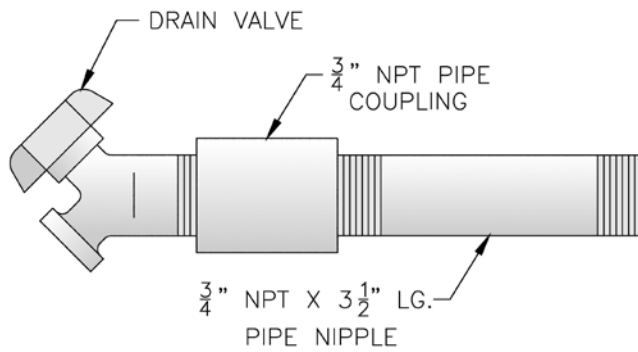

Figure 17: Drain Piping Installation
D. Install Drain Valve in rear of Left End Section, Tapping “G”. See Figure 17. Components are located in Water Trim Carton.